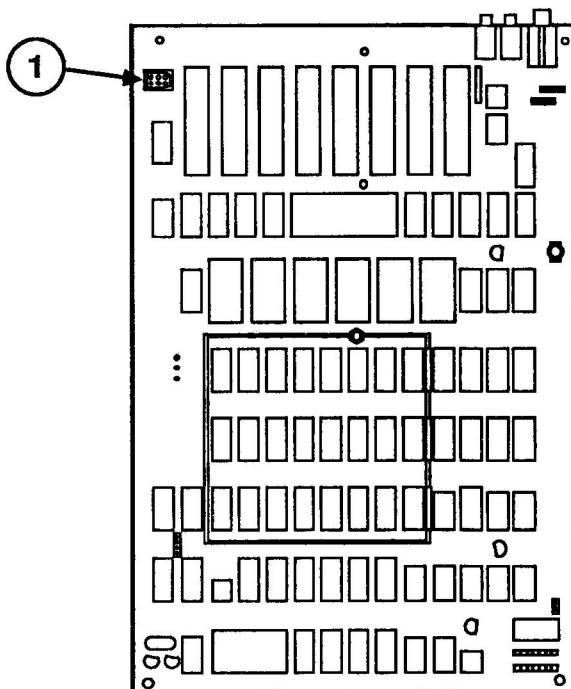

FIGURE 5
2. Pinch the front and rear sides of the power supply connector (Figure 5, #1) and pull the connector from its mating socket.